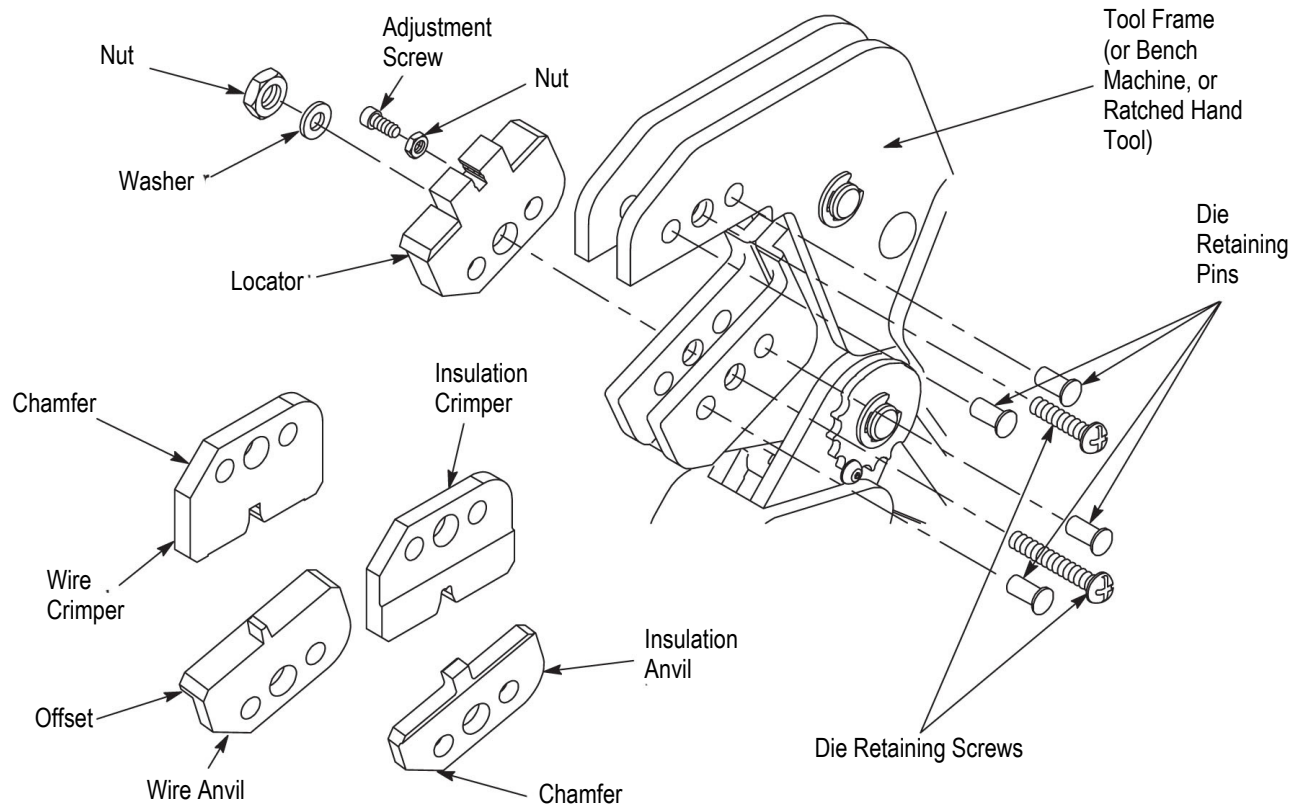

Figure 2
**2. DESCRIPTION** (See Figure 1 and Figure 2.)
### 3. INSTALLATION AND REMOVAL OF DIE SET AND LOCATOR ASSEMBLY (Figure 2)